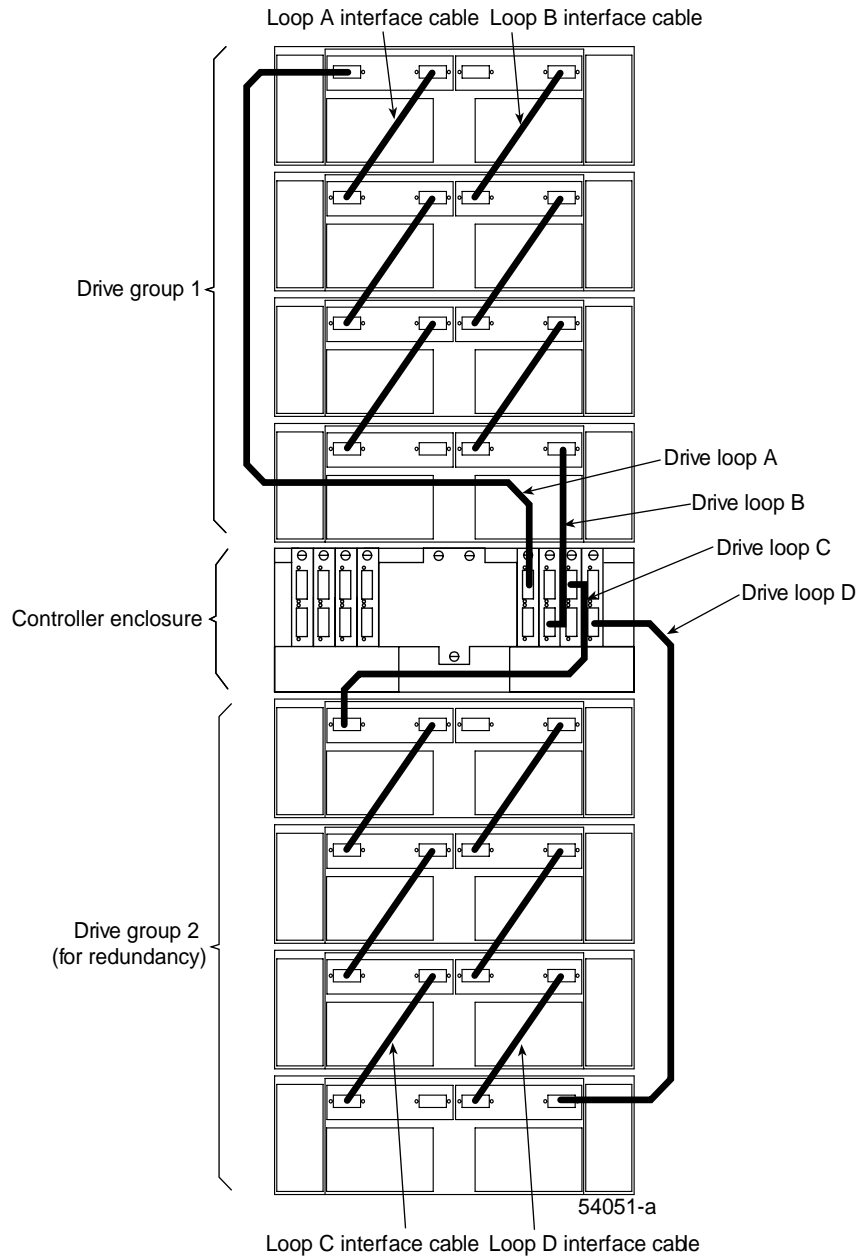

Figure 8-5 Two Drive Groups, Each with Redundant Drive Loops
4. Connect drive loop C to the controller enclosure (see Figure 8-5).
5. Connect drive Loop D to the controller enclosure (Figure 8-5).